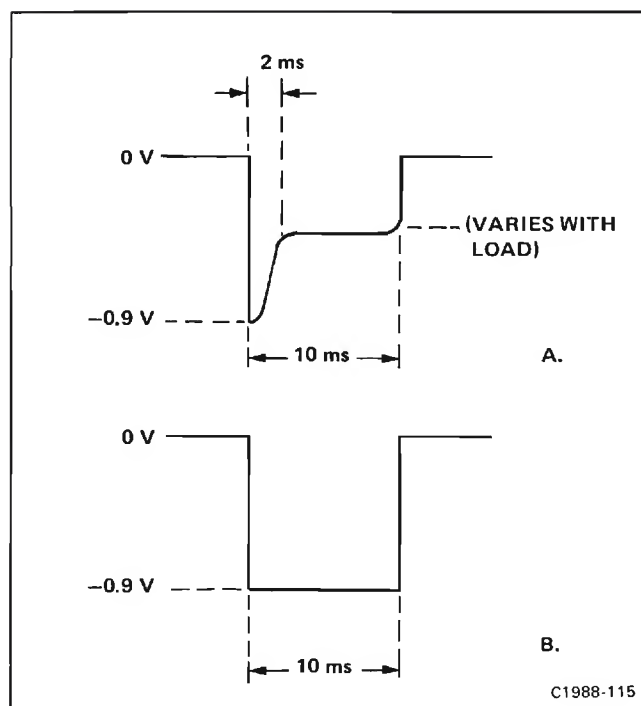

Figure 3-6. Current sensing waveform at R84.
3. Compare the waveform on the test oscilloscope to those shown in Figure 3-6. If the waveform resembles that of Figure 3-6A, proceed to Step E of this procedure. If it resembles that of Figure 3-6B, proceed with part 4 of this step.